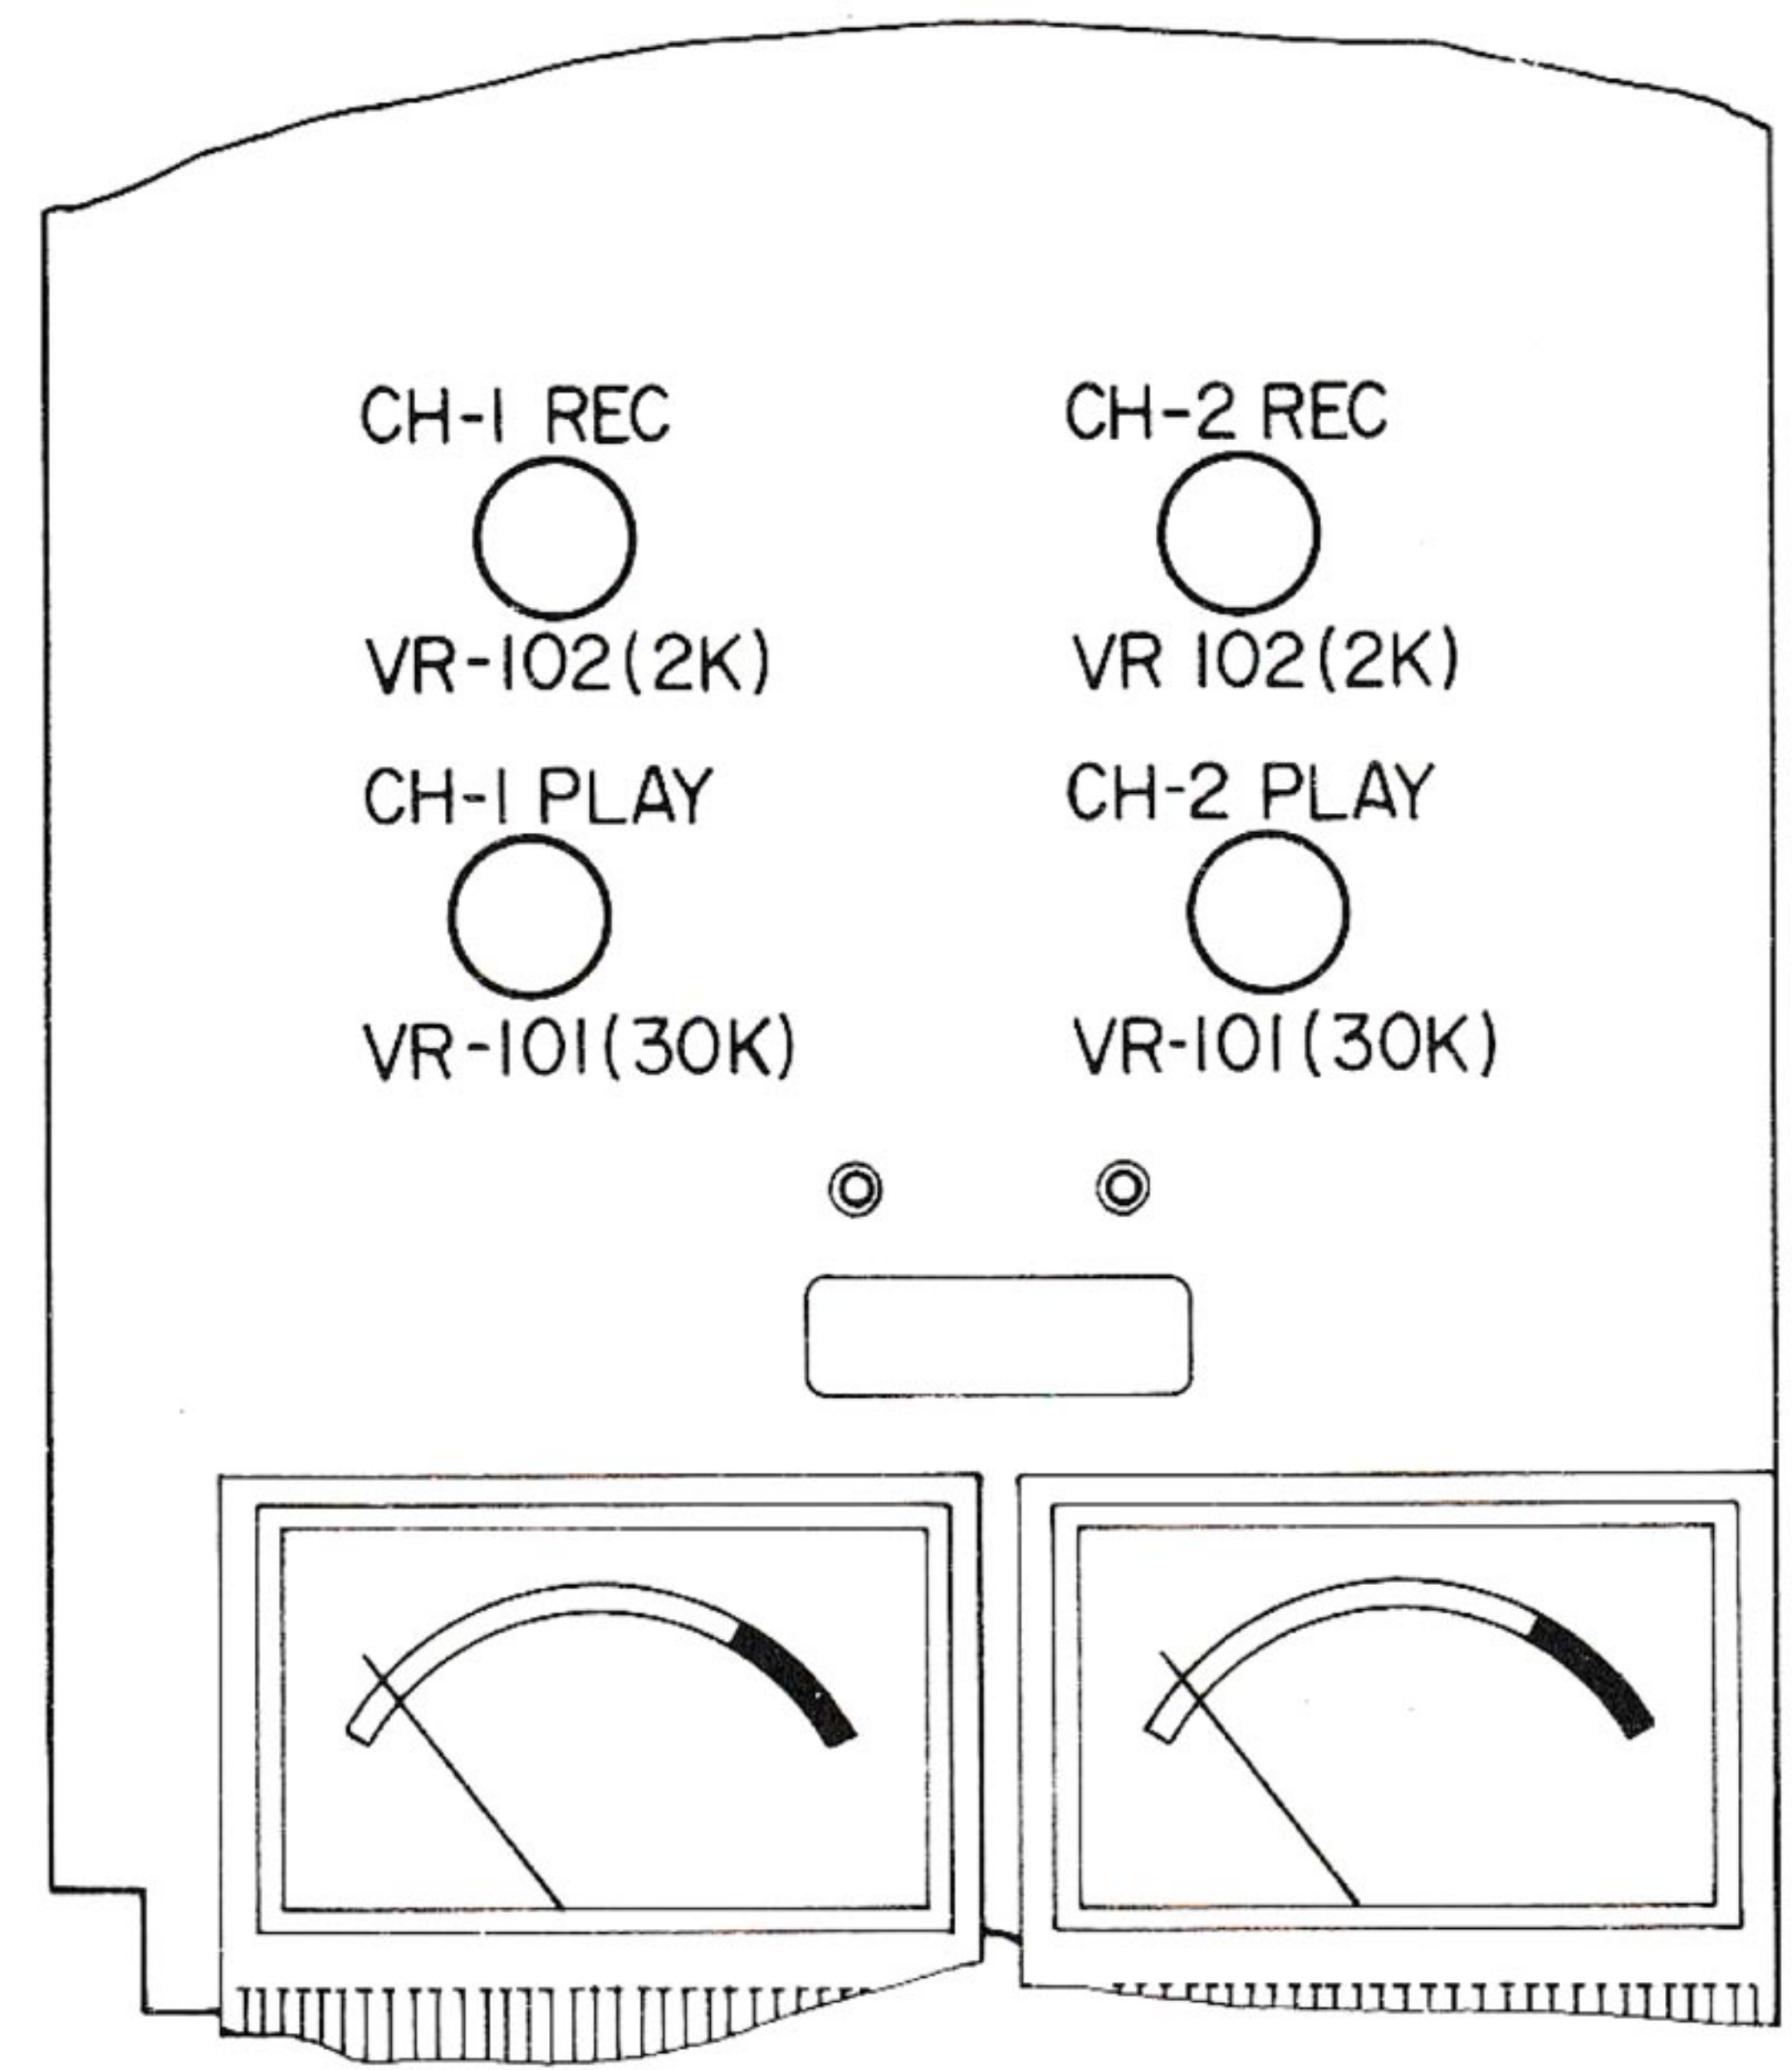

Fig. 3
- (A) Playback Output Level (Pre-Amplifier Adjustment) (See Figs. 3 & 4)